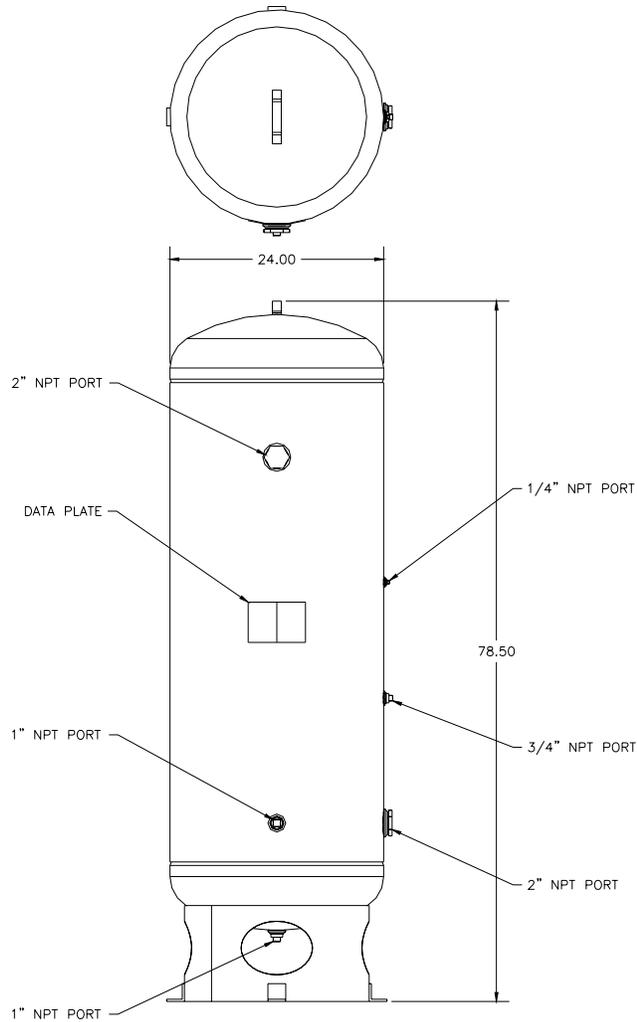

Figure 5-2 120 Gallon Oxygen Receiver
- 2) Install your oxygen receiver. If AirSep Corporation provided your oxygen receiver, assemble the receiver as follows (See Figure 5-2.):